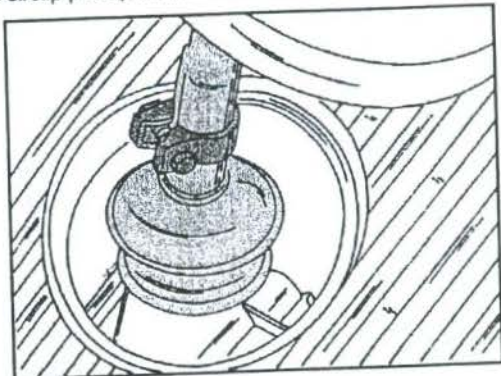

Fig. 3.1 – The upper part of the gearchange lever can be removed after slackening the clamp.
- Pull up the rubber gaiter around the gearchange lever and slacken the clamp screw shown in Fig. 3.1, detach the gaiter and remove the locking ring inside the opening (inside circlip pliers). Withdraw the lower part of the gearchange lever.